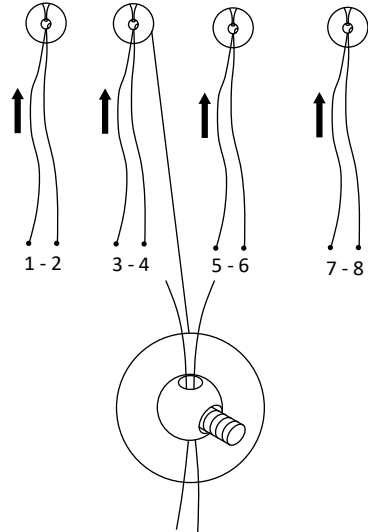

Fig 6
4. Pair wires together (Fig 6).